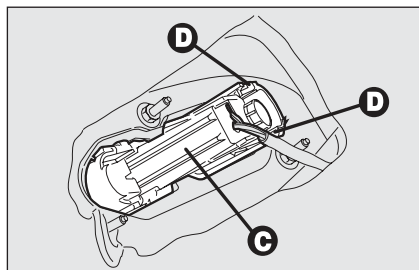

fig. 38
- ☐ remove the bulb holder unit **C-fig. 38** by pressing the retaining tabs **D**.
- ☐ refit the bulb holder unit securing it properly using the retaining tabs **D-fig. 38**;